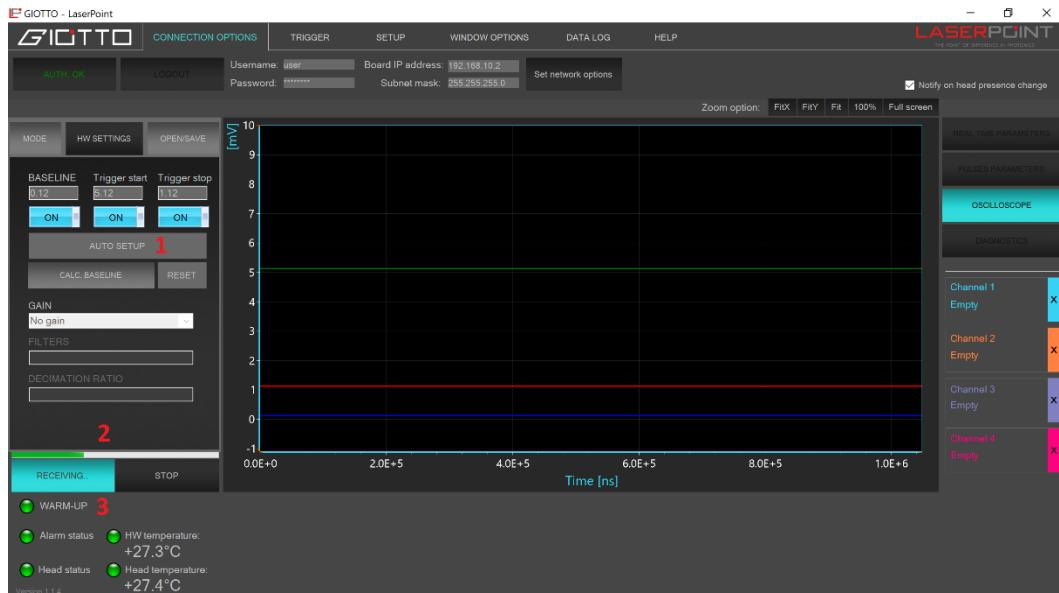

Figure 13
8. Then press the “AUTO SETUP” button (1, fig.13) a fully automatic process starts (2, fig.13) in order to calculate the optimal Baseline and set automatically Baseline, Trigger Start, Trigger Stop